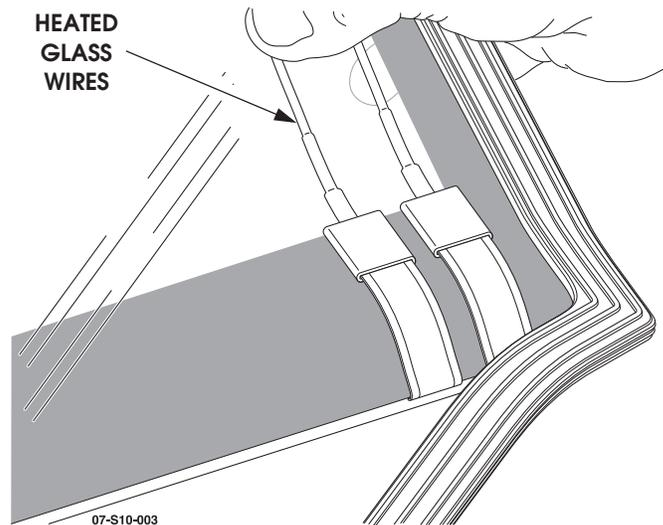

Figure 3: Weather Strip Installation
2. On vehicles with heated windshields, hold the heated glass wires flat against the glass and position the weather strip on the glass (See Figure 3).